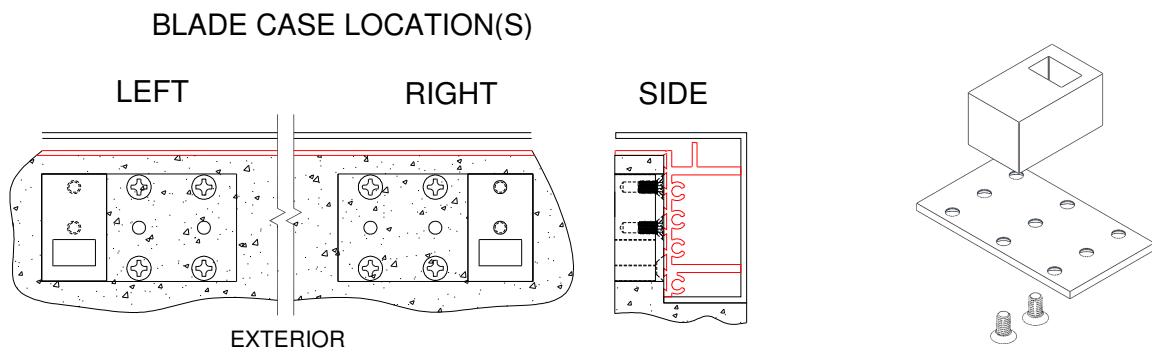

Figure 18:
1. Determine the location setting for the blade case (Figure 18). Remove screws (from the underside) and reassemble as necessary (Figure 19).